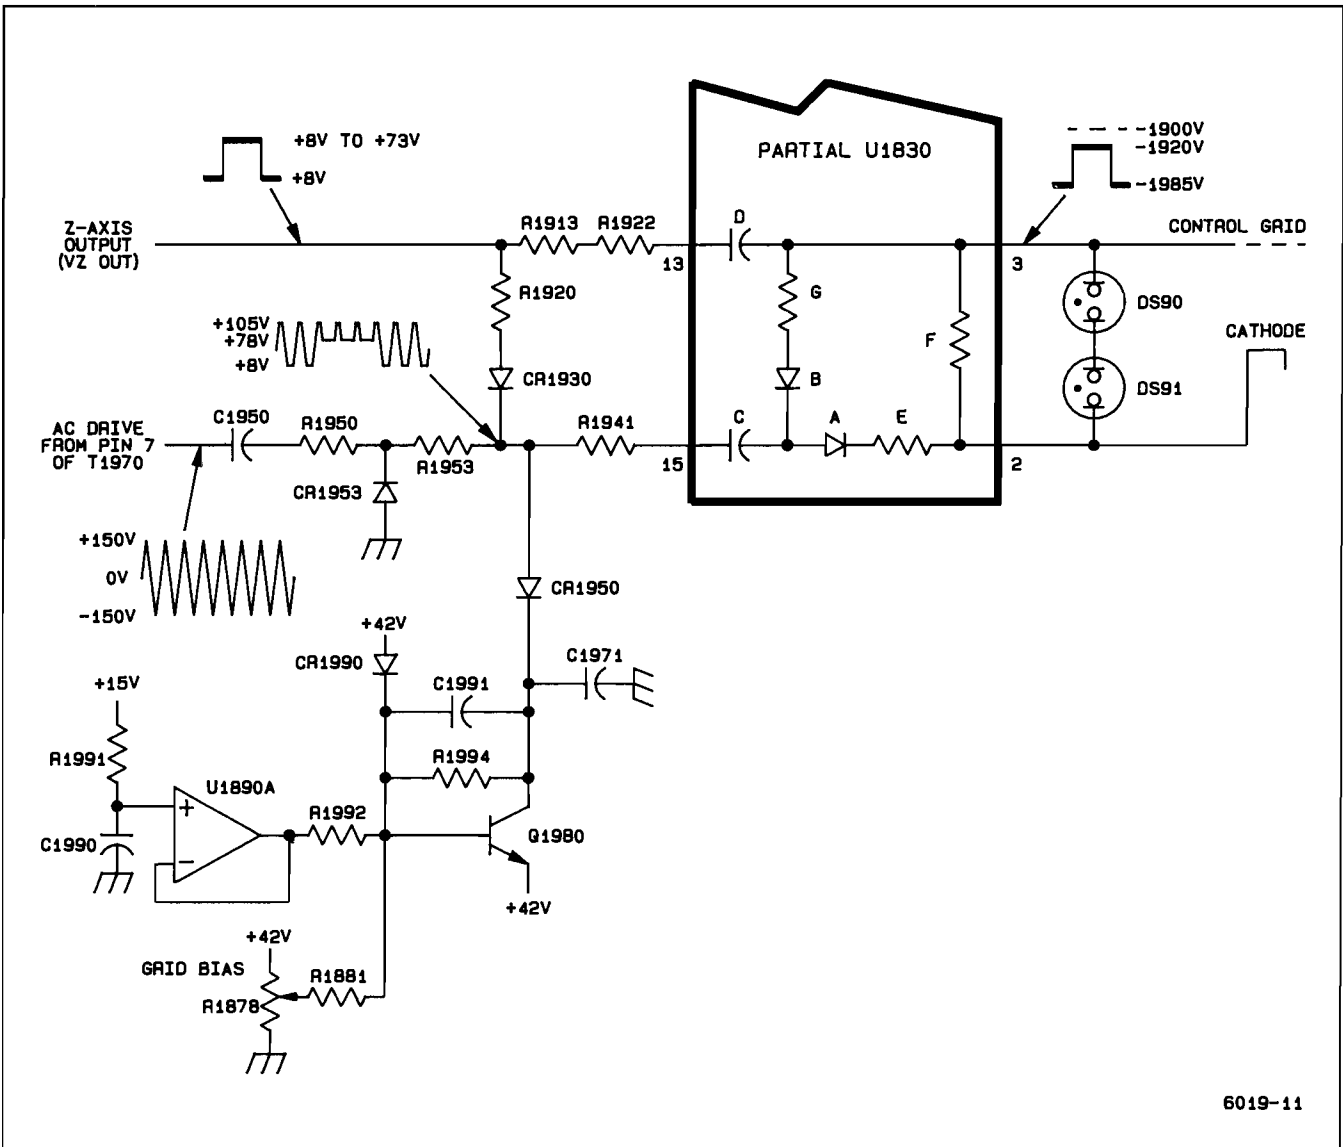

Figure 3-9. Dc restorer circuit.
The DC Restorer circuit (Figure 3-9) operates by impressing the crt grid bias setting and the Z-Axis drive signal on an ac voltage waveform. The shaped ac waveform is then coupled to the crt control grid through a coupling capacitor that restores the dc components of the signal.
**DC RESTORATION.** The DC Restorer circuit in the High Voltage Module is referenced to the crt cathode voltage via a connection within U1830. Capacitor C (in Figure 3-9), connected to pin 15 of U1830, initially charges to a level determined by the difference between the Z-Axis signal level and the crt cathode potential. The Z-Axis signal sets the level on the positive plate of capacitor C through R1920, CR1930, and R1941; the level on the negative plate is set by the crt cathode voltage through resistor E and diode A. Capacitor D is charged to a similar dc level through resistors F, R1922, and R1913.